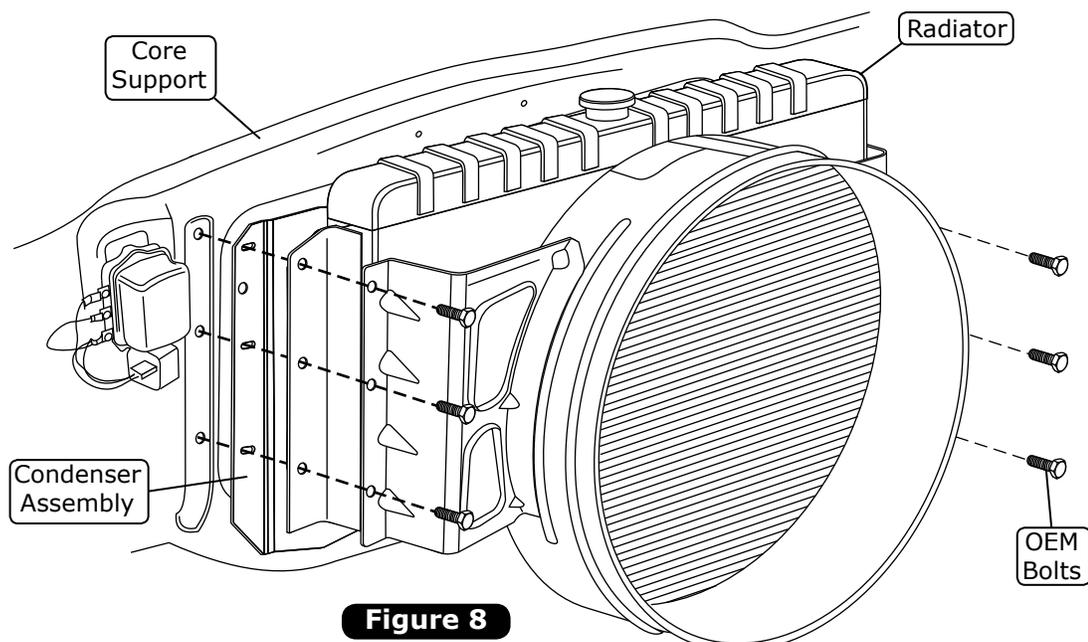

Figure 8
2. Using the OEM hardware, secure the condenser assembly between the radiator and the core support (See Figure 8, below).